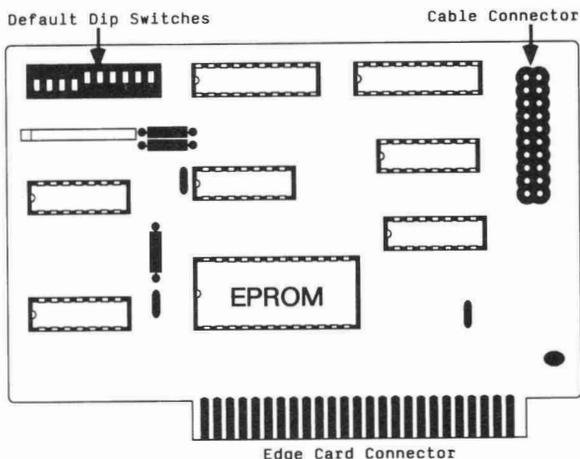

Figure 1.1 Block diagram of pc board
Your UniPrint package contains a printed circuit (PC) board and a cable to connect the card to a printer with a Centronics-type connector. The functional areas of the PC board are shown in Figure 1.1 and described in the following paragraphs.